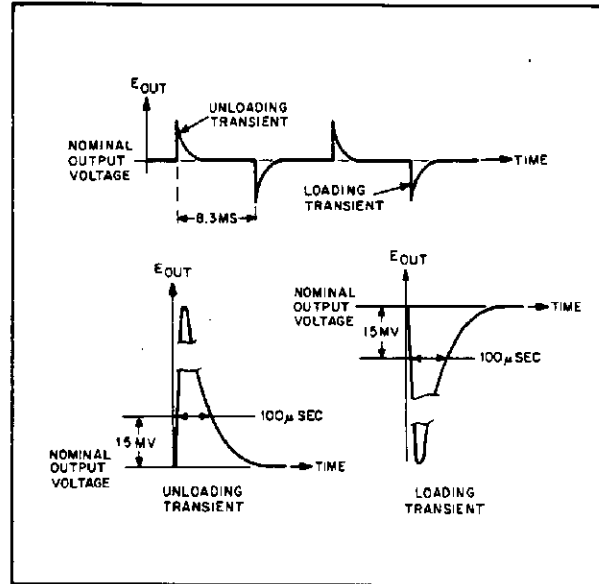

Figure 5-5. Load Transient Recovery Waveforms
n. Starting from the major graticule division representing time zero, count to the right 100 μ sec and vertically 15mV. Recovery should be within these tolerances as illustrated in Figure 5-5.